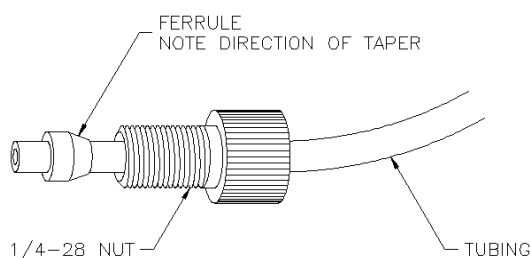

Figure 6. Assembly of 1/4-28 nut, ferrule and tubing for connection to degasser ports.
- For connecting the tubing to the degasser ports, assemble the nut and ferrule according to Figure 6.